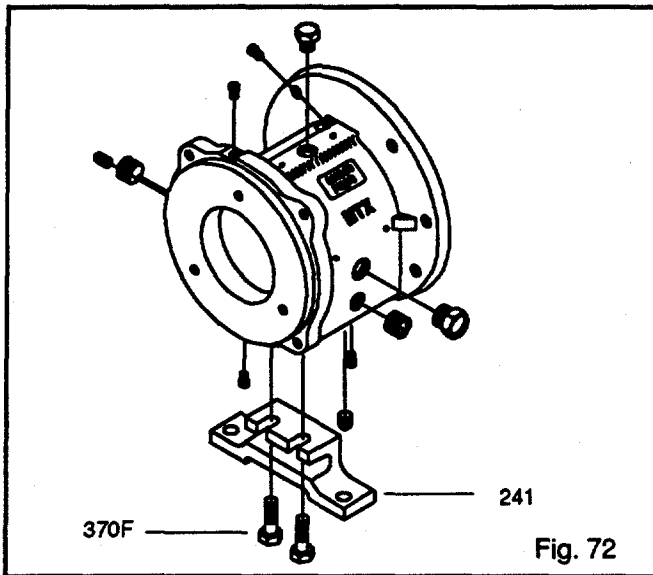

Fig. 72
2. Attach bearing frame foot (241) with bolts (370F). Hand tighten (Fig. 72).